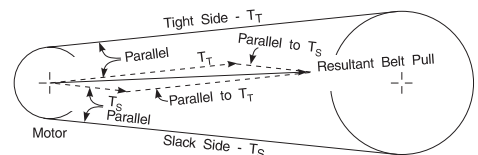

Figure 34 – Graphical Addition of  $T_T$  and  $T_S$
**A.** If only the magnitude of belt pull is needed, numerical methods for vector additions are faster than the graphical approach. If both magnitude and direction of belt pull are required, the vector sum of  $T_T$  and  $T_S$  can be calculated by graphical vector addition as shown in Fig. 34. The  $T_T$  and  $T_S$  vectors are parallel to the tightside and slackside, respectively, and they should be drawn to a convenient scale; i.e. 1 in. = 100 lb.
Fig. 34 shows the vector addition for belt pull on a motor shaft. Use the same procedures to determine the belt pull on the driveN shaft. This graphical illustration method should also be used for drives that have three or more sheaves or idlers.